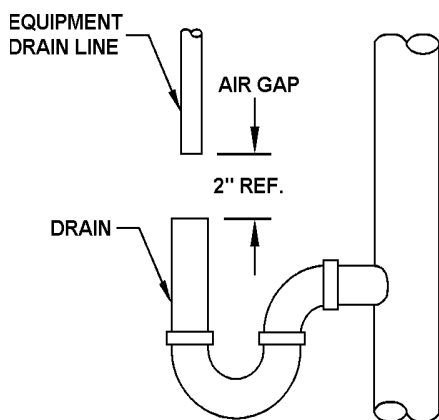

Figure 3. TYPICAL DRAIN
- Step 7. Position DRAIN LINE over drain and secure firmly. To prevent backsiphoning of waste water, provide an air gap of at least 2 in. or 2 pipe diameters between end of drain hose and drain (Figure 3). **DO NOT** raise DRAIN LINE more than 10 ft. above floor.